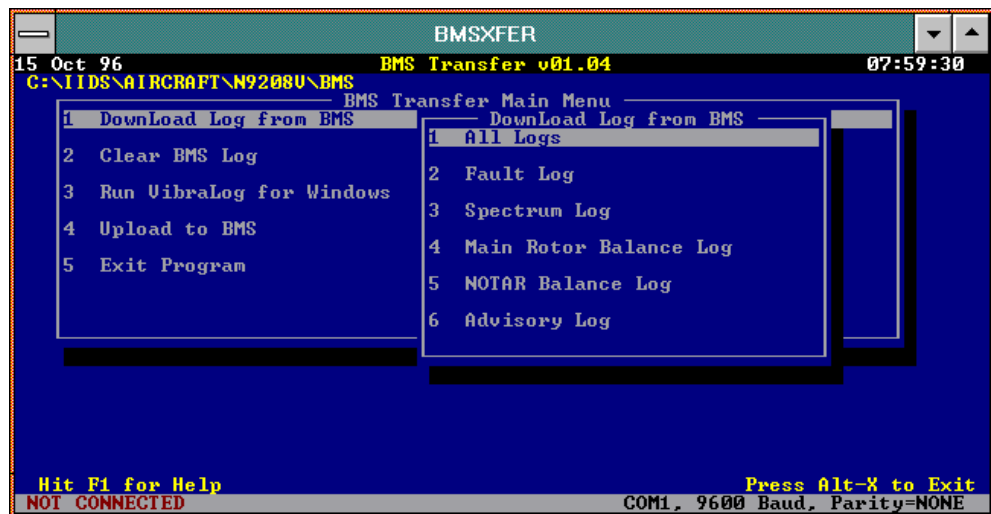

Figure 62. BMS Download Logs Menu Screen
4. A status screen will appear indicating the download progress of each log being transferred. Verify that "OK" appear after each log file name when "Download Complete" flashes at the bottom of the screen (refer to Figure 62).